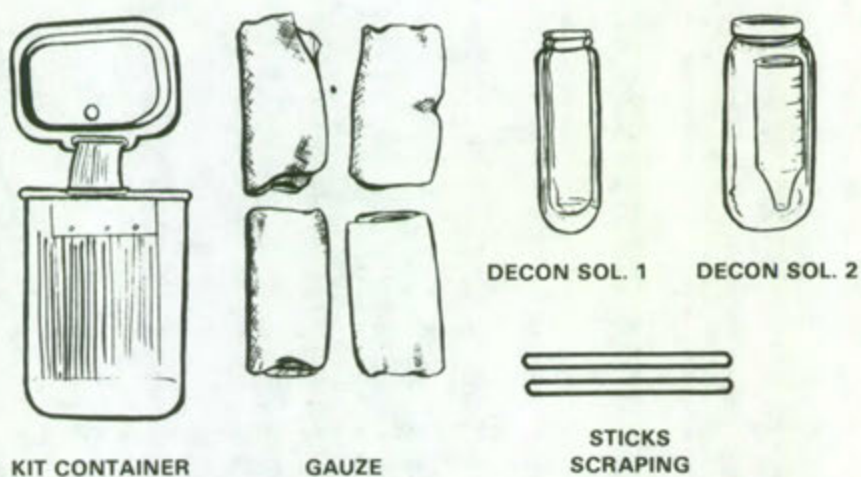

Figure 2. M258 decontamination kit.
- a. Extract your M258 kit (figure 2) from your protective mask carrier.